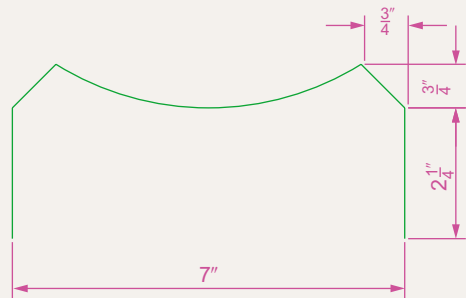
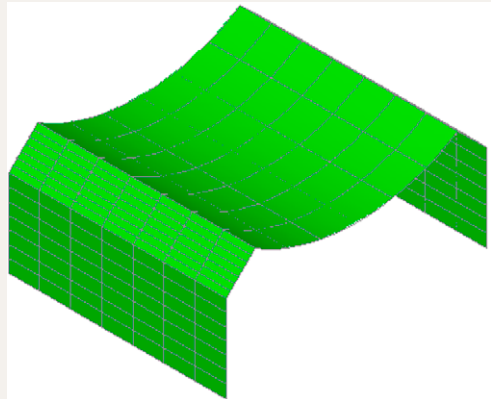

Fig. 14.43 Exercise 6 – outline to be extruded
Fig. 14.44 Exercise 6
6. In **3D Navigation/Right** view construct the lines and arc (Fig. 14.43) on a layer colour **green**. Extrude the lines and arc to a height of **180**, place in the **SW Isometric** view and in the shade style **Visual Styles/Realistic** (Fig. 14.44).